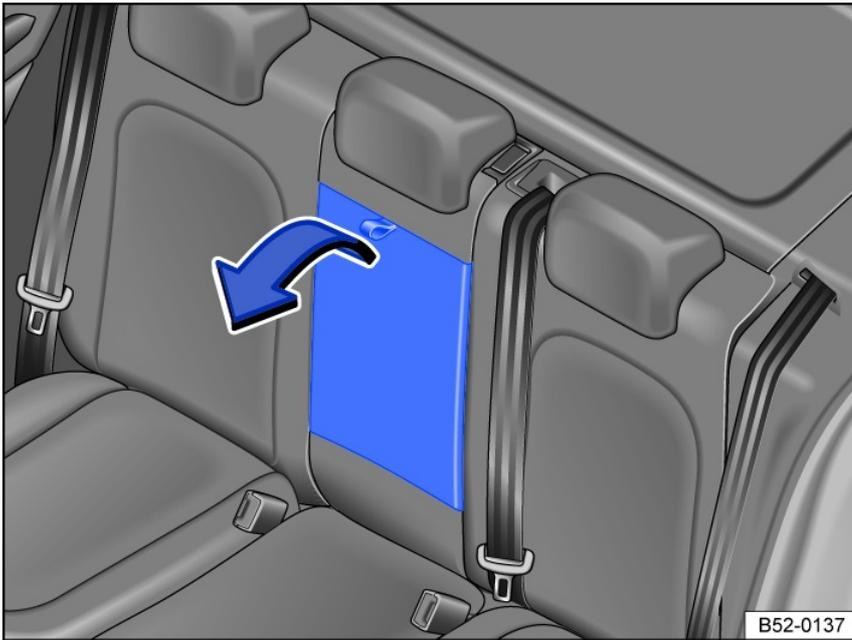

Fig. 93 Rear center armrest
- To *fold forward*: Pull the loop in the direction of the arrow *fig. 93*.
- To *fold back*: fold the center armrest upward in the opposite direction of the arrow *fig. 93* and press it all the way toward the seat backrest.